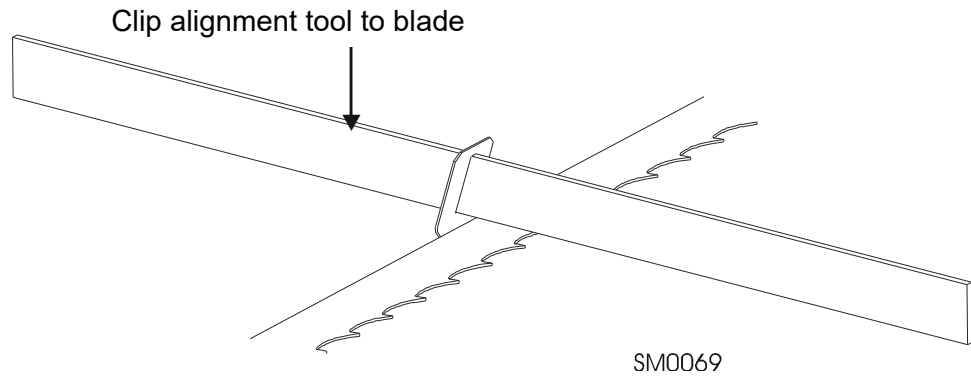

FIG. 3-12
See figure 3-12.
5. The two measurements should be the same. If they are not, loosen one side set screw of the guide assembly and adjust the blade guide in the vertical plane using the screws shown in Figure 3-12.